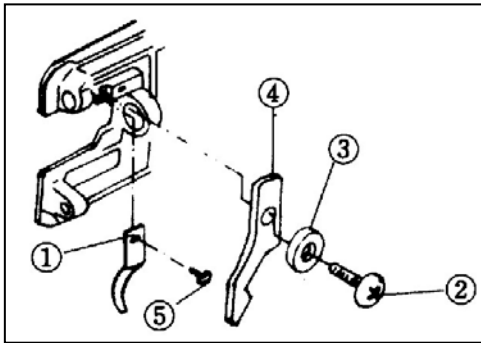

Fig. 28
- A. To change the fixed knife (1), loosen the inner spindle stopper fixing screw (2) as in Fig.28, remove the washer (3) and inner spindle stopper (4), then unfasten the fixed knife fixing screw (5). Follow these instructions in reverse order to assemble.